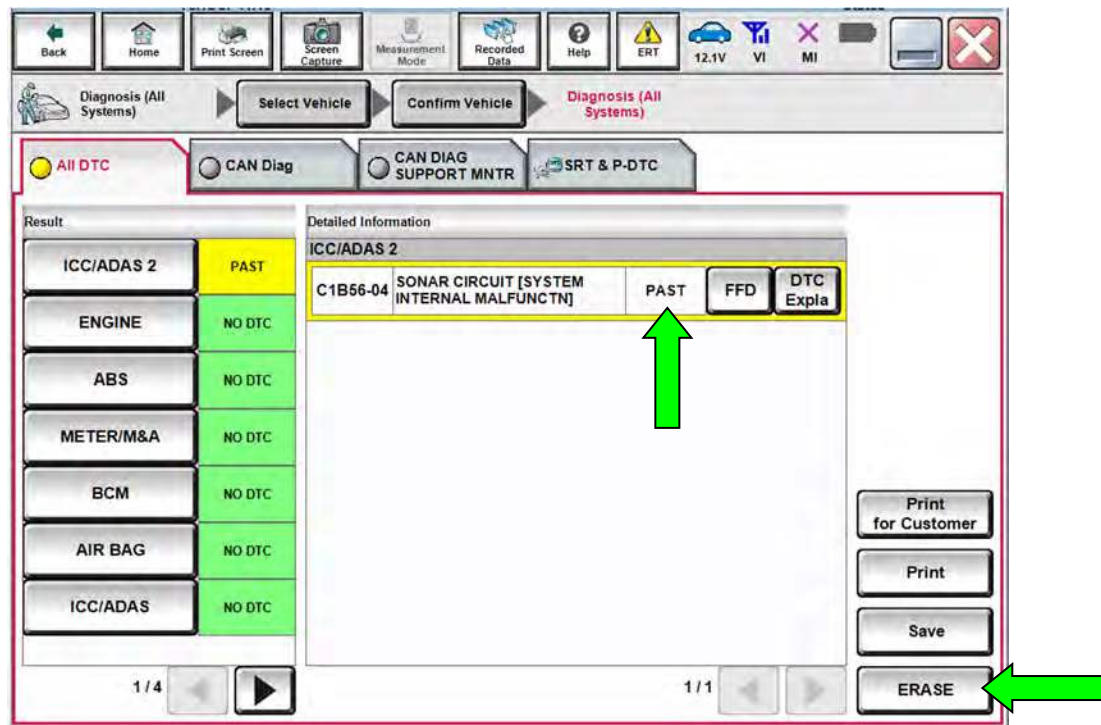

Figure 39
68. Confirm DTC C1B56-04 is displayed as PAST (not CRNT). See Figure 39.